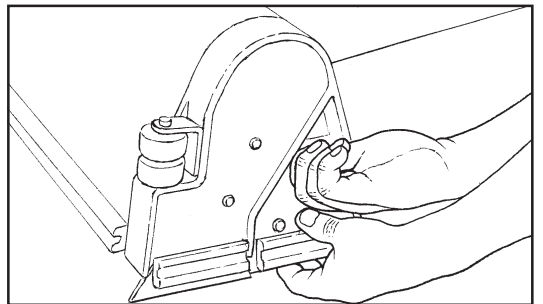

Figure 15
4. Go to the front of the machine and remove thumb screw from brush door (figure 15).